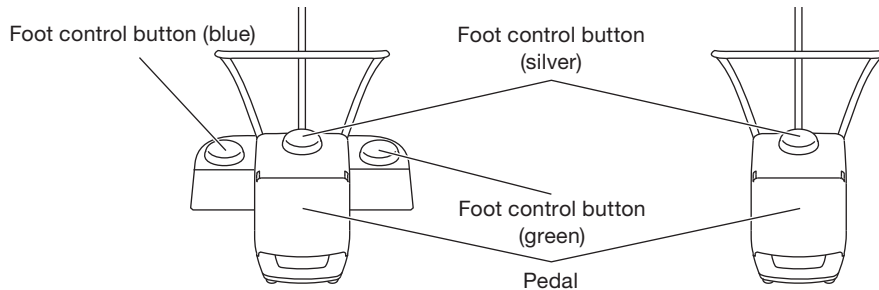

Fig.4
- 3 Push the foot control button to set the control unit to the pre-determined function (Fig. 4). For the setting of the Foot Control, refer to "6-4 Setting Up the Foot Control" in OM-SE0028E Total Surgical System Primado2 OPERATION MANUAL.